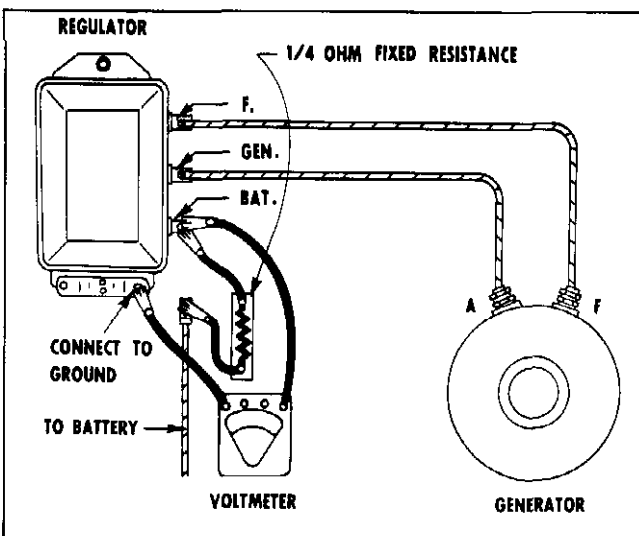

Fig. 12-7 Connections for Testing Voltage Regulator
1. Connect a ¼-ohm fixed resistor (approximately 25 watts capacity) into the charging circuit at the "BAT" terminal of the regulator and connect a voltmeter from the "BAT" terminal to ground (Fig. 12-7).